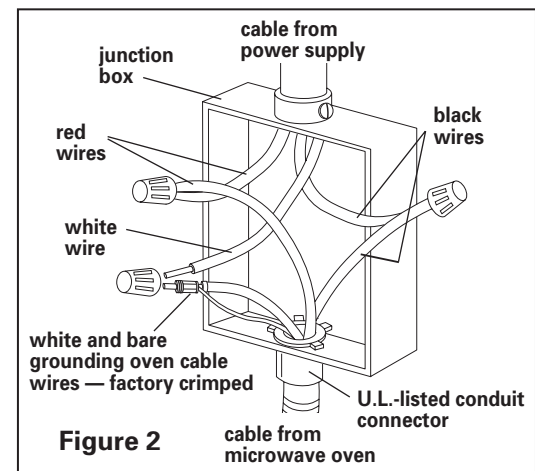

Figure 2
7. Connect the factory-crimped bare and white oven cable wires to the neutral (white) wire in junction box. See Figure 2.